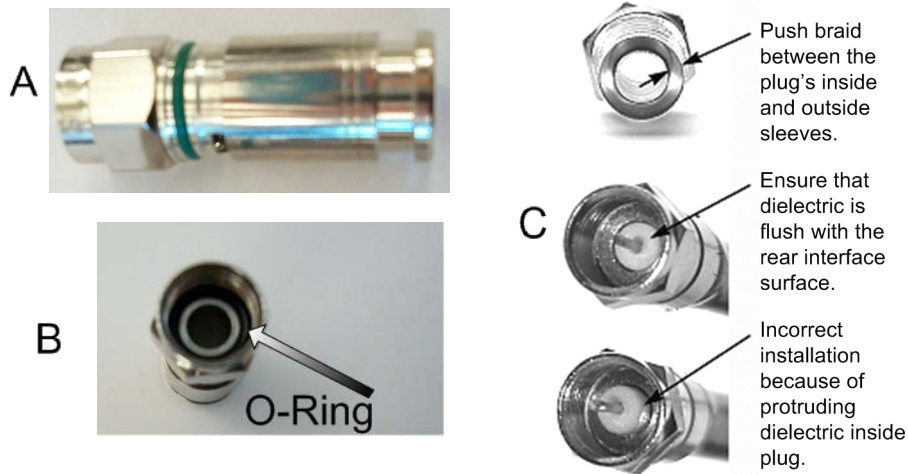

Figure B-4. Attaching the Compression fitting F-type Connector
8. Install the RG-6 connector compression sleeve, or mandrel, (top left (A) in Figure B-4 on page 64) over foil and underneath the braid. A good, weatherproof outdoor connector mandrel should have a visible O-Ring (bottom right (B) Figure B-4 on page 64).
NOTE: The white colored inner dielectric insulation should be flush with the inner rear surface of the connector. Refer to the picture on the right (C) in Figure B-4 on page 64 for an RG-6/RG-11 termination.